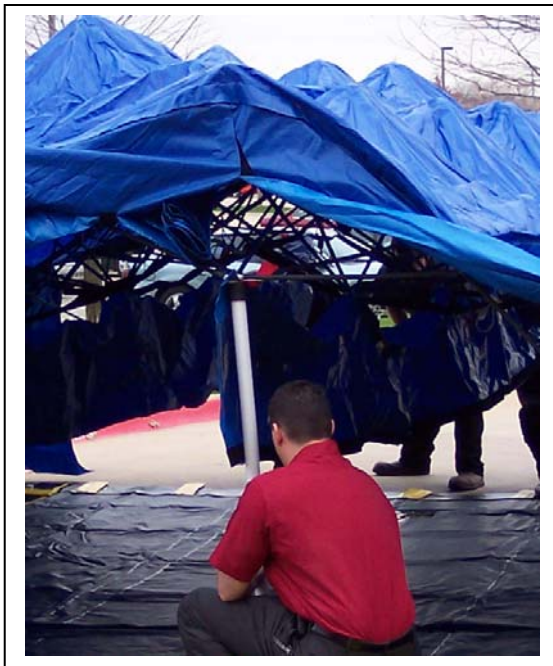

Figure 2-4. Push Pole Placements
4. Each person should simultaneously lift the shelter up. As quickly as possible, place one end of the push pole directly underneath the push point hub with the red flag, keeping the push pole straight see Figure 2-4.